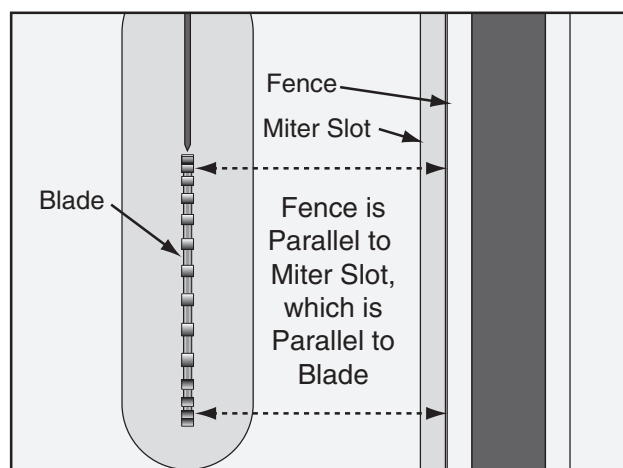

Figure 139. Checking fence parallelism with blade.
- Slide the fence up against the right hand edge of the miter slot, lock it in place, then raise the blade above the insert. Using a fine ruler, examine how the fence lines up with the miter slot and the blade, as shown in **Figure 139**.
—If the fence and miter slot are parallel with the blade, as shown in **Figure 139**, no further adjustments need to be made.
5. Rotate the blade 180° and recheck the distance between the fence and the blade tooth you marked in **Step 4** to ensure they are parallel (see **Figure 139** on **Page 71**).